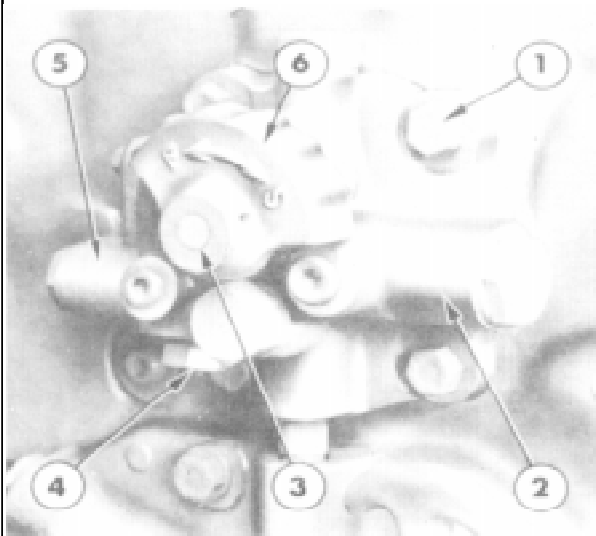

Figure 44
The high capacity manually operated flow control valve is located at the top right-hand side of the rear axle centre housing, Figure 44. The valve controls the volume of oil flowing to the cylinder and/or auxiliary equipment and is featured on Farmtrac models only with a gear type hydraulic pump.
4. Slacken the four flow control valve plate retaining bolts, Figure 44.